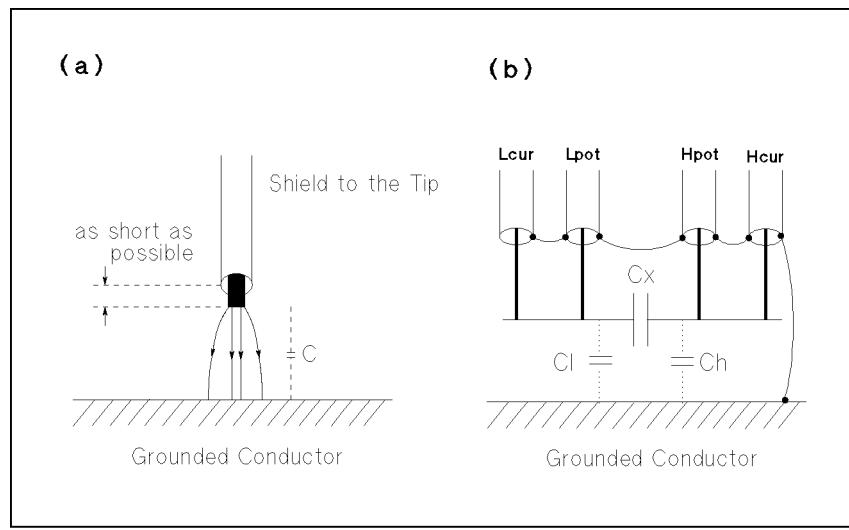

Figure 7-7. Reducing Capacitance to Ground
To minimize the stray capacitance of the test leads, the center conductor of the test leads should be kept as short as possible, as shown in Figure 7-7, (A). If four-terminal pair connections are close to the point where contact is made with the DUT, interconnect the shields of the measurement terminals to the conductor to reduce the influence of the stray capacitance to ground, as shown in Figure 7-7, (B).